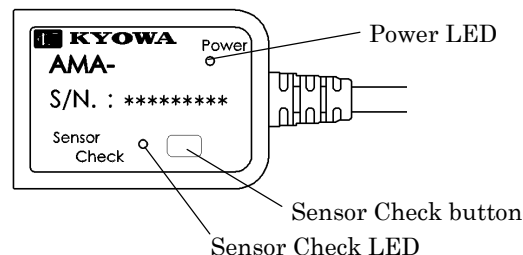

Figure 3-4
3.7 After turning ON the power, the Power LED on the relay lights up. While pressing the Sensor Check button, the Sensor Check LED lights up and the AMA-A outputs voltage at random. If the AMA-A does not output voltage at random while pressing the Sensor Check button, the AMA-A might be failure. (Figure 3-4)